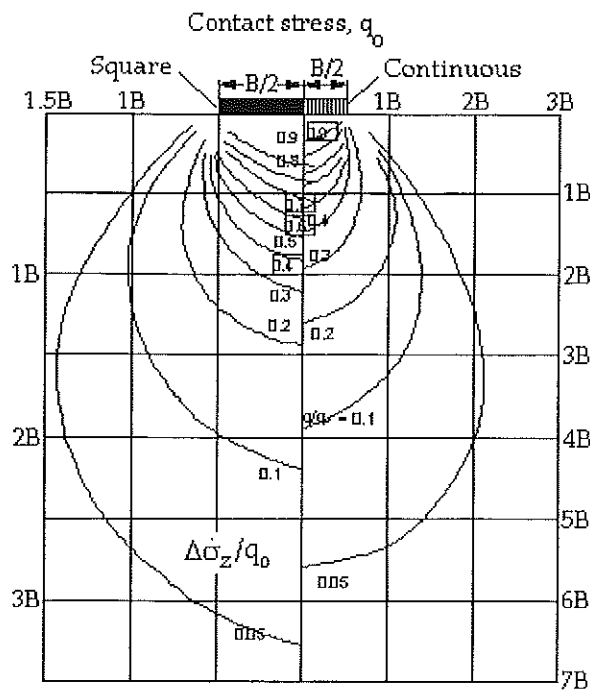

Fig. A7
7. A 1.75m wide strip footing is subjected to an allowable contact pressure of 100kPa. The stress acting at a depth of 3.5m, along the centreline of the footing (refer Fig. A7) is: